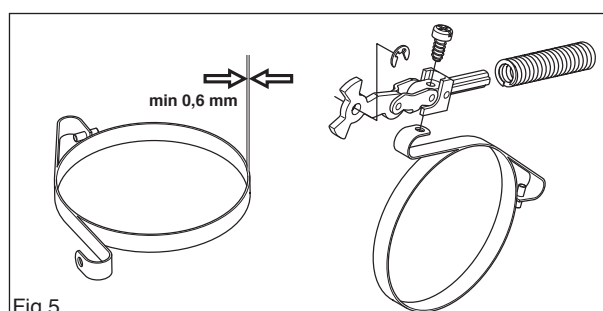
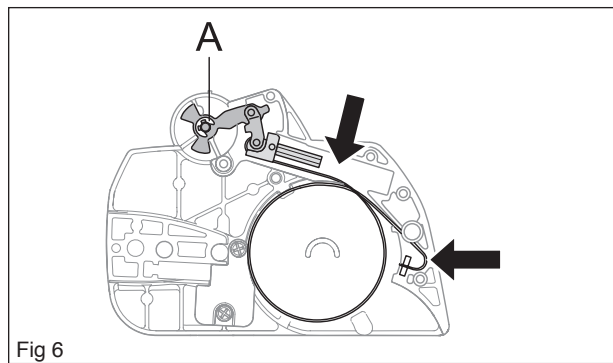

Fig 5
Fig 6
- Measure the thickness of the chain brake band. It must not be less than 0.6 mm at any point. (see figure 5)
Bolt the elbow joint to the brake band (see figure 5) and tighten to a torque of 1–1.5 Nm. Locate the elbow joint and connected brake band in their recesses in the clutch cover. Lubricate the recess for the spring with grease. (see figure 6)
Secure the circlip (A) (see figure 6)